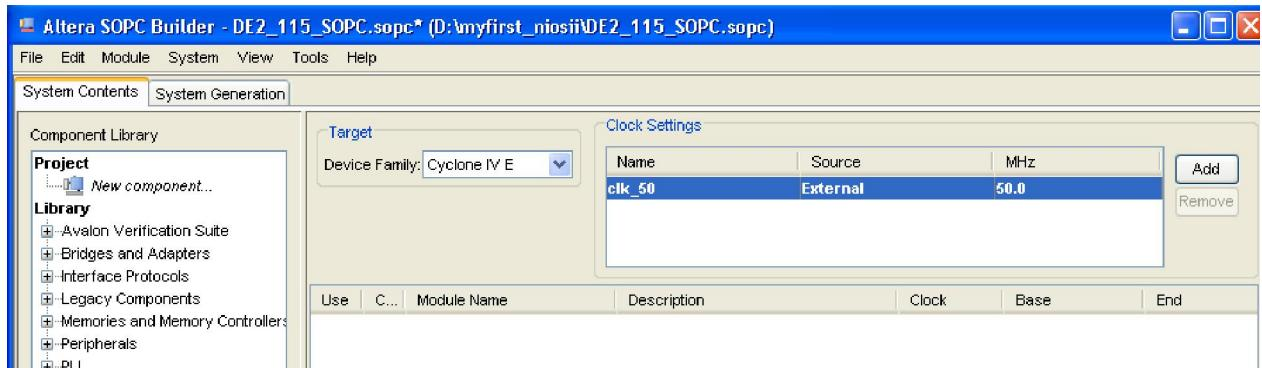

Figure 1-13 Rename Clock Name
7. Click the **Name** of the **Clock Settings** table, rename **clk_0** to **clk_50**. Press Enter to complete the update. See Figure 1-13.